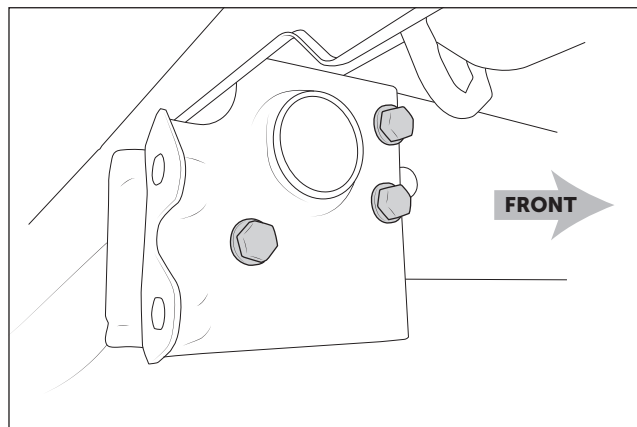

Figure 33
1. Working one side at a time, remove the three hitch assembly bolts (fig. 33). SAVE hardware.